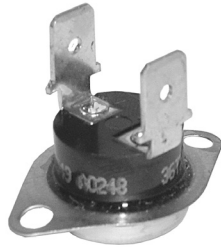

Figure 40. High Limit Switch
5. Remove (3) screws holding the anti-rotation bracket in place.
7. Remove (4) screws as shown in Figure 40.
9. Remove (2) screws holding the control panel up.